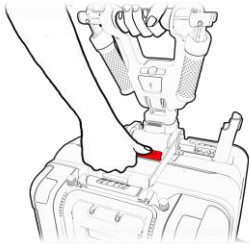

Figure 51
3. Hold the handlebar with one hand and press the central release button with your other hand until you feel a click (see Figure 51).